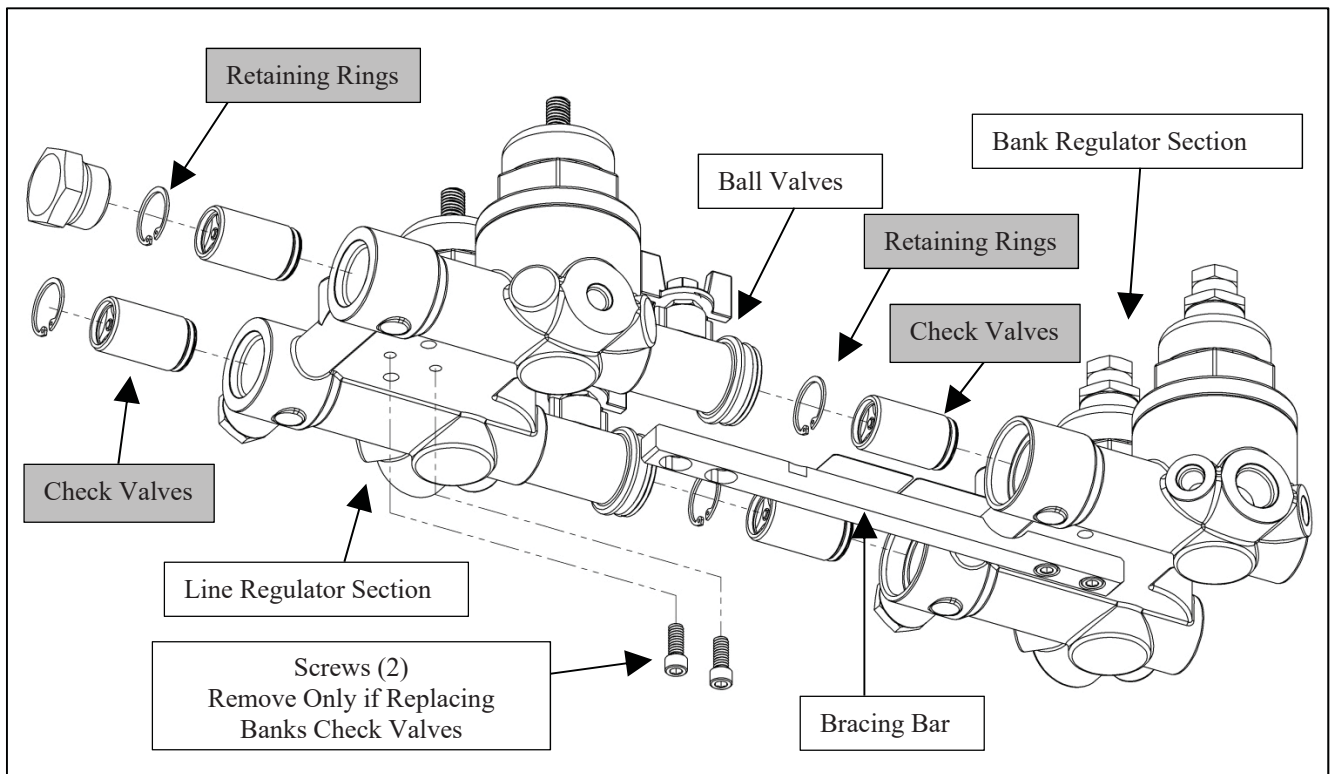

Figure 21: Check Valve Removal. NFPA/ISO Version Shown.
See Figures 21 and 22.
5. Using Needle Nose pliers grasp the Guide of Check Valve and pull Check Valve out of the manifold Body. See Figure 21 and 22.
3. Using Needle Nose pliers grasp the Guide of Check Valve and pull Check Valve out of the manifold Body. See Figure 21 and 22.